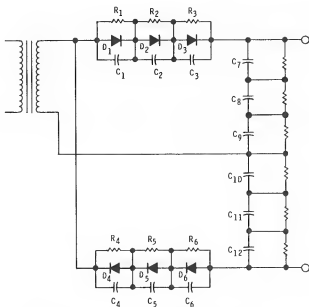

Figure 4-98
8. What is the circuit shown in Figure 4-98?
9. What is the purpose of connecting the diodes in series in the circuit of Figure 4-98?
10. What is the purpose of C_1 - C_3 and R_1 - R_3 in the circuit of Figure 4-98?
11. Why are C_7 - C_9 connected in series in the circuit of Figure 4-98?